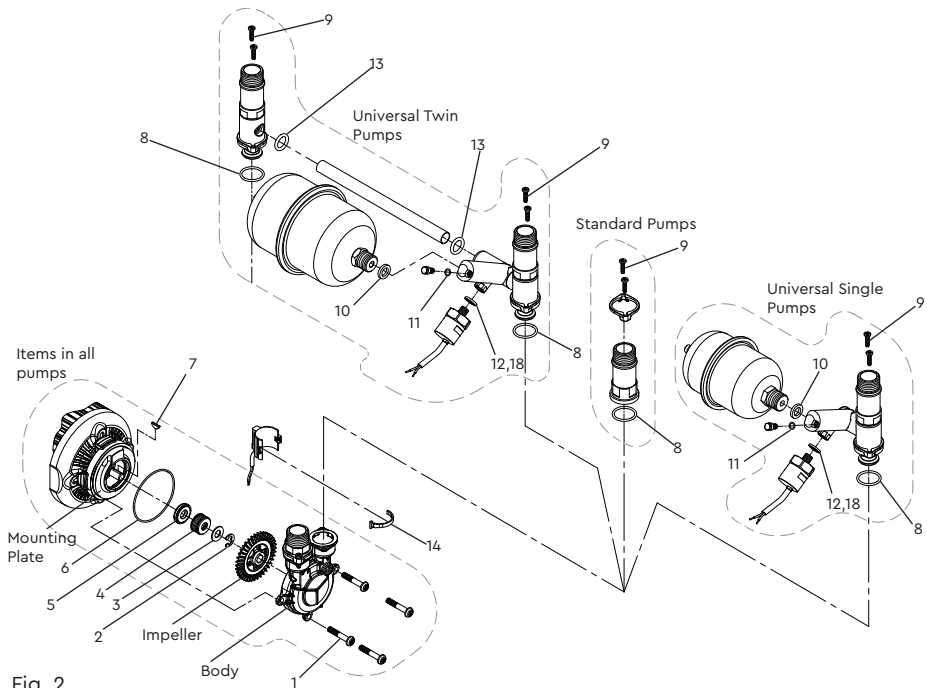
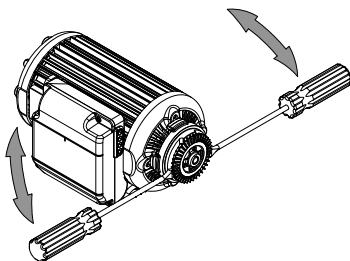

Fig. 2
Fig. 3
To disassemble the pump, the following items are required to be removed in the sequence detailed (Fig. 2).
- Remove 4 screws (item 1) and gently prise off the pump body – note 'O'-ring (item 6) between pump body and mounting plate.
- Slide impeller away from shaft and remove woodruff key (item 7) – (see note: Fig. 3).
- Remove circlip (item 2) and mechanical seal parts. (items 3 & 4).
- Remove Counterface (item 5) from its mounting plate location.
- Note: Other parts are supplied in this kit and can be used as shown in Fig. 2 if replacement required.
Difficulties may be experienced in the removal of the impeller. To overcome this, two screwdrivers can be used to gently lever the impeller away from the shaft as detailed (Fig. 3), ensuring equal pressure is applied to each side of the component to avoid bending the shaft.